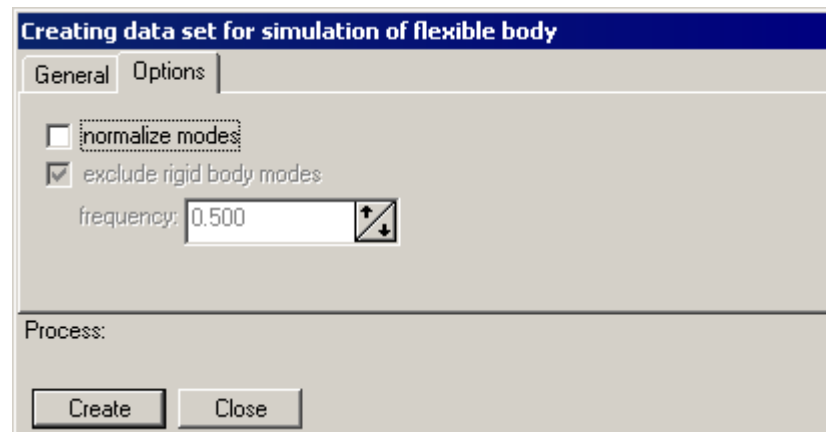

Figure 1.3.
6. Point to the **Options** tab and turn off the **normalize modes** check box, Figure 1.3. This case corresponds to creating the intermediate **input.fum** file. On the successive step we will use the **Wizard of flexible subsystems** to convert the data into UM-compatible form.
**Note.** Using the wizard of flexible subsystems data is not an obligatory phase. Preparing the data can be fulfilled with the help of **ansys\_um** program. To do this point to the **Options** tab and turn on the **normalize modes** and **exclude rigid body modes** check boxes and set **frequency** value, Figure 1.3. Nevertheless now we will use the wizard of flexible subsystem data in order to familiarize you with it.